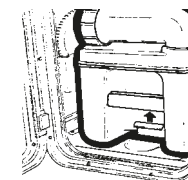

Fig. 1
1. Open access door pull retaining clip upwards (fig. 1).